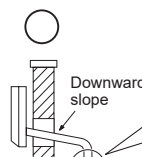

Fig. 2
- The drain hose should point downward for easy drain. (Fig. 2)